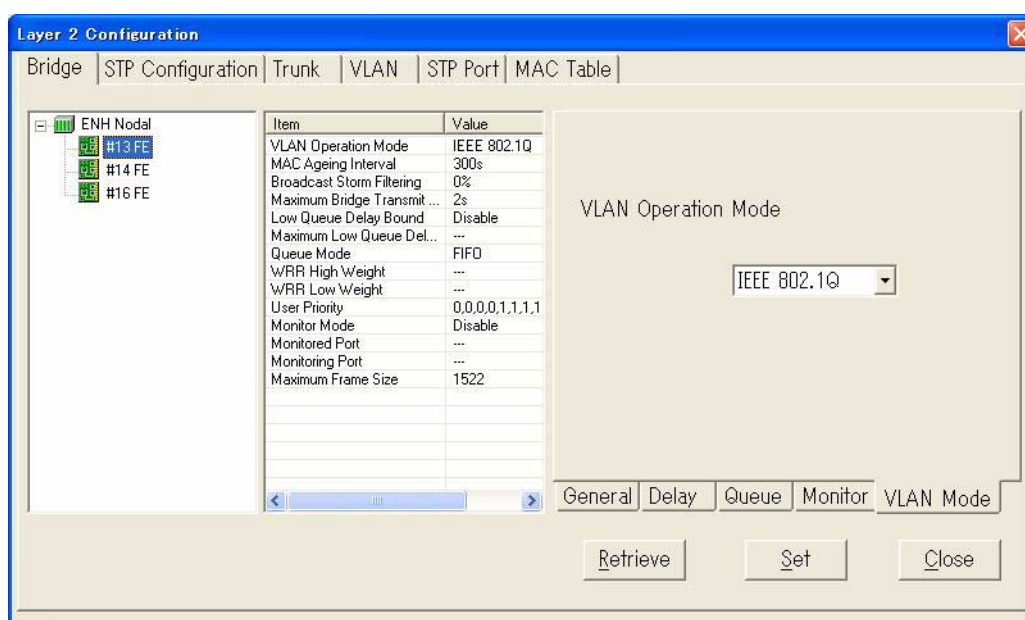

Fig. 4-4-43 VLAN Operation Mode Setting
- 3 In order to set the **VLAN Mode**, select **VLAN** in the bottom of window. *Fig. 4-4-43* appears. Select **Port based** or **IEEE 802.1Q** in **VLAN Operation Mode** drop down box according to the requirement.